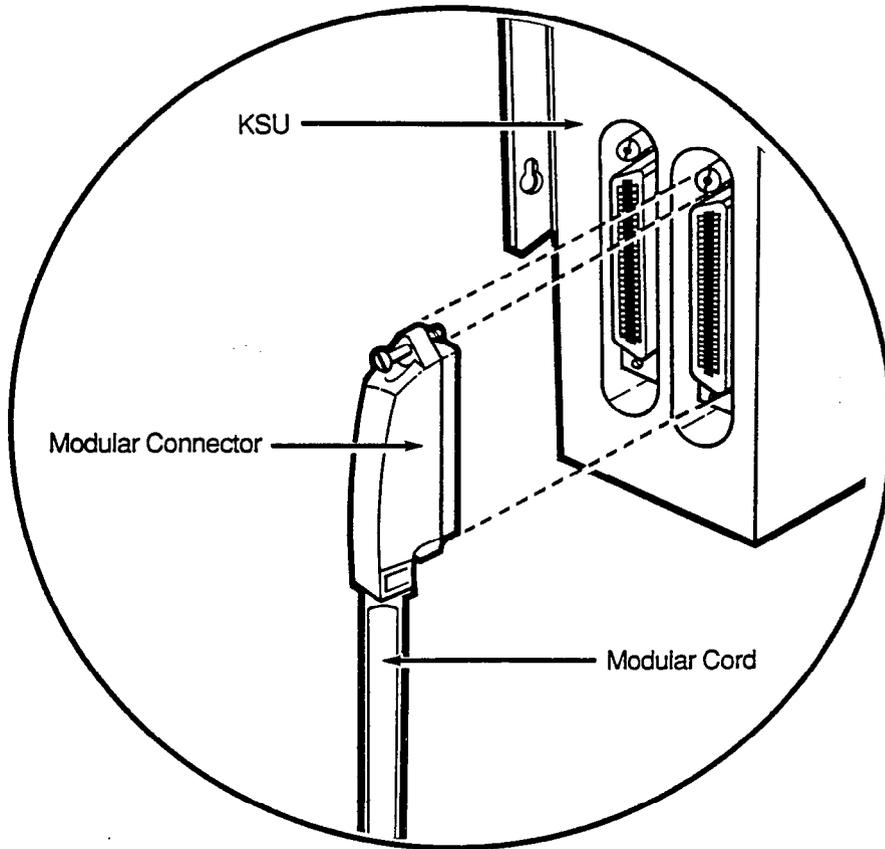

Figure 3-3: Connecting the MDF to the KSU
- Step 2 Connect the MDF to the desired KSU station ports using a 25-pair cable and two 50-pin 'D' Amp Connectors (refer to Figure 3-3).